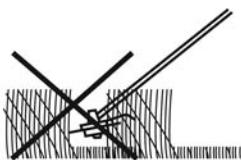
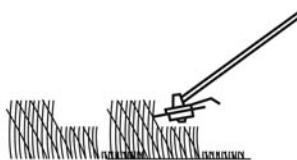

Fig. 27
Fig. 28
- > Never attempt to cut tall grass in one go: always proceed in stages (Fig. 27). This will always achieve better results (Fig. 28).